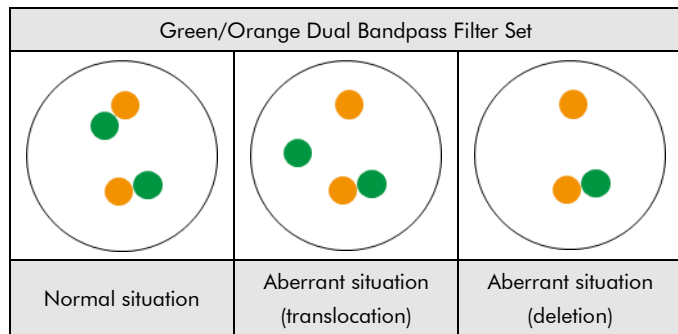

Fig. 2: Expected results in normal and aberrant nuclei
**Normal situation:** In interphases of normal cells or cells without a translocation involving the BRAF gene region, two green/orange fusion signals appear (see Fig. 2).
**Aberrant situation** One BRAF gene region affected by a translocation is indicated by one separate green signal and one separate orange signal. A deletion of 5' BRAF sequences resulting in a FAM131B-BRAF fusion is indicated by the loss of one green signal (see Fig. 2).